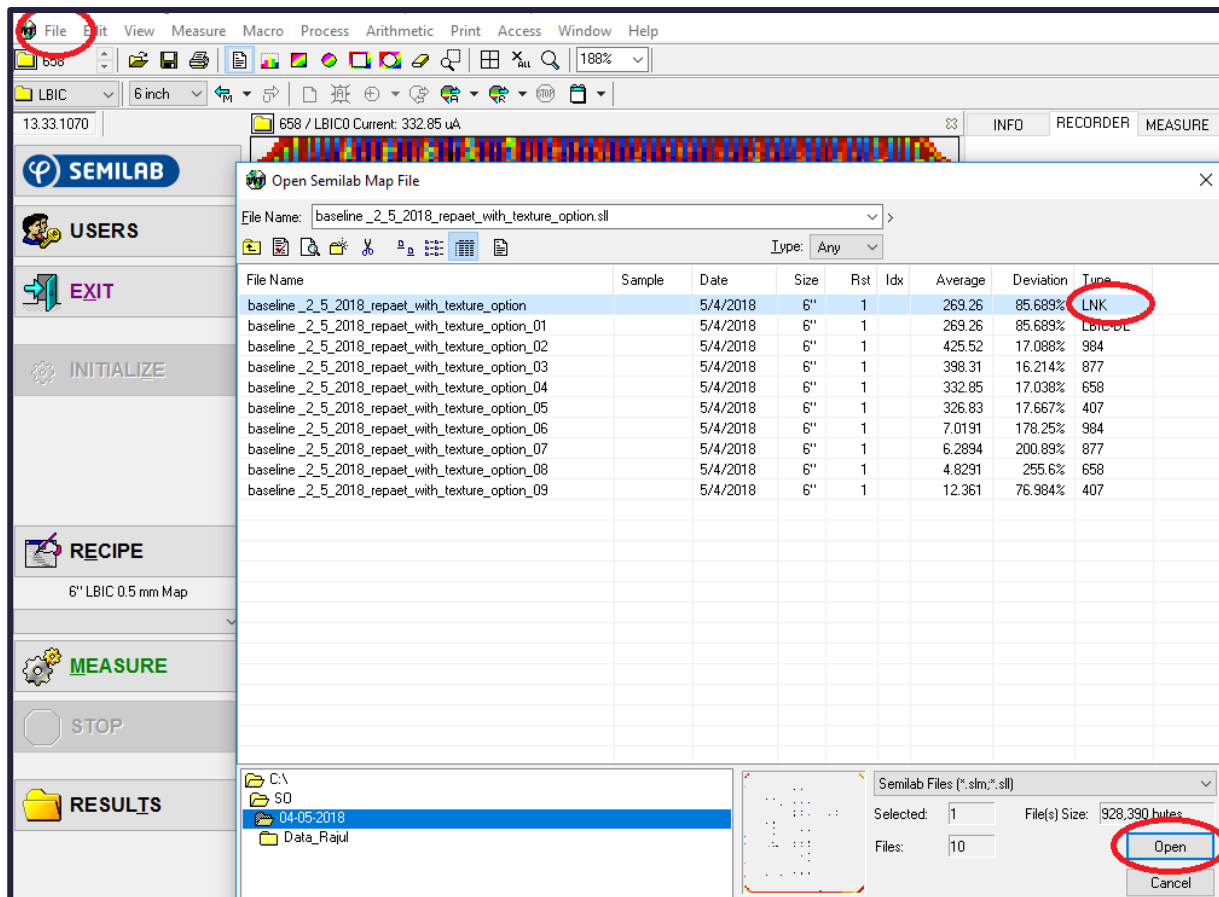

Figure. 19
19. Open the .slf file by clicking *File/Open/folder/LNK* type file. (Figure. 19)